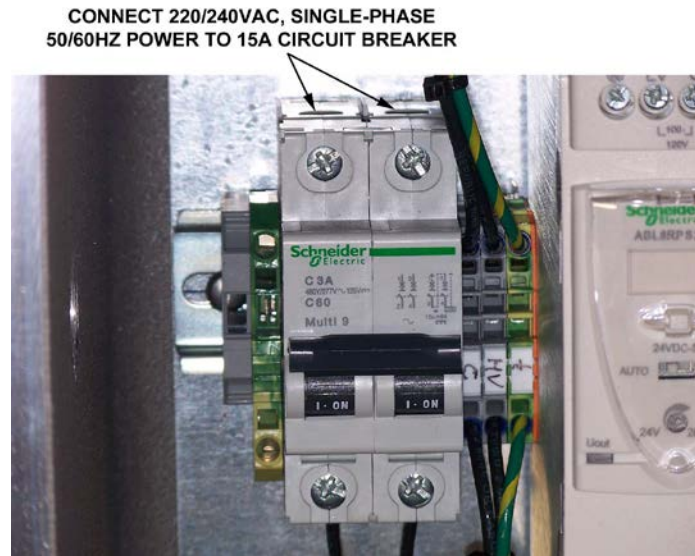

Figure A-3. Electrical Connections to Router Switchgear Box
2. Route 14 AWG (2.5mm) or larger power cable from the customer power source to the circuit breaker in the Router Switchgear Box (Figure A-3). Strip and secure cables to circuit breaker terminal.